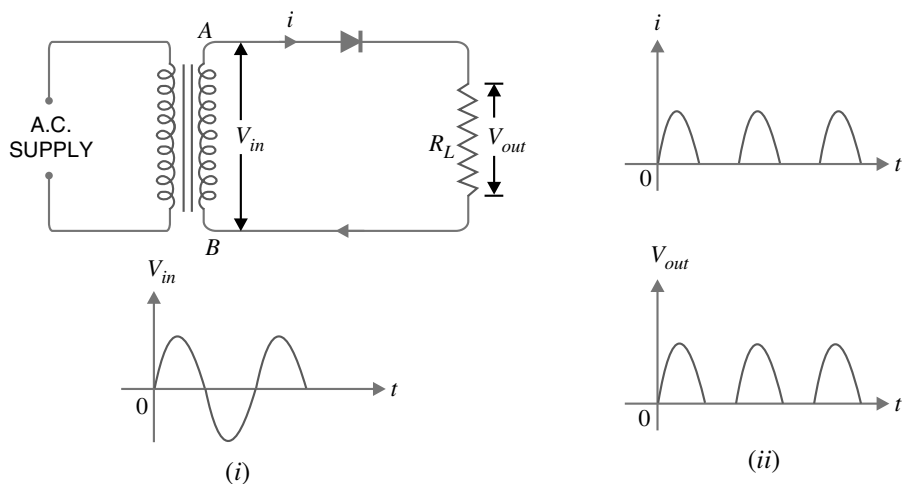

Fig. 4.26
**Circuit details.** Fig. 4.26 shows the circuit where a single semiconductor diode acts as a half-wave rectifier. The a.c. supply to be rectified is applied in series with the diode and load resistance  $R_L$ . Generally, a.c. supply is given through a transformer. The use of transformer permits two advantages. Firstly, it allows us to step-up or step-down the a.c. input voltage as the situation demands. Secondly, the transformer isolates the rectifier circuit from power line and thus reduces the risk of electric shock.
**Operation.** The a.c. voltage across the secondary winding  $AB$  changes polarities after every half-cycle. During the positive half-cycle of input a.c. voltage, end  $A$  becomes positive *w.r.t.* end  $B$ . This makes the diode forward biased and hence it conducts current. During the negative half-cycle, end  $A$  is negative *w.r.t.* end  $B$ . Under this condition, the diode is reverse biased and it conducts no current. Therefore, current flows through the diode during positive half-cycles of input a.c. voltage only ; it is blocked during the negative half-cycles [See Fig. 4.26 (ii)]. In this way, current flows through load  $R_L$  always in the same direction. Hence d.c. output is obtained across  $R_L$ . It may be noted that output across the load is pulsating d.c. These pulsations in the output are further smoothened with the help of *filter circuits* discussed later.